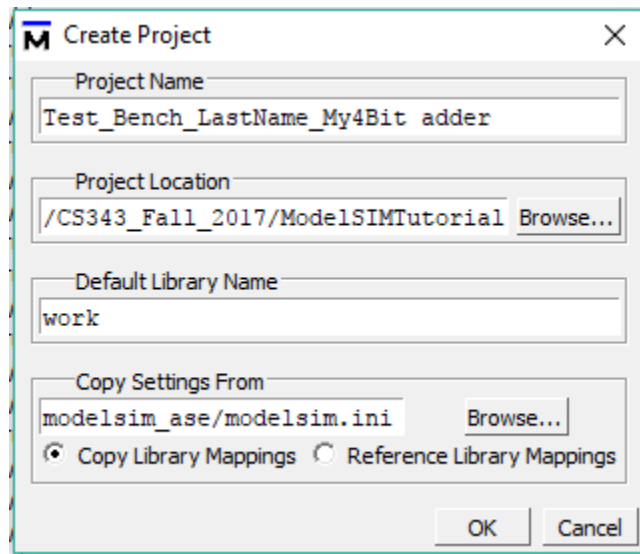

Figure 11. Create New Project dialog in ModelSim
4. The Create New Project dialog appears, enter a name for your project, you can call it **Test_Bench_LastName_My4Bit adder**. See figure 11.